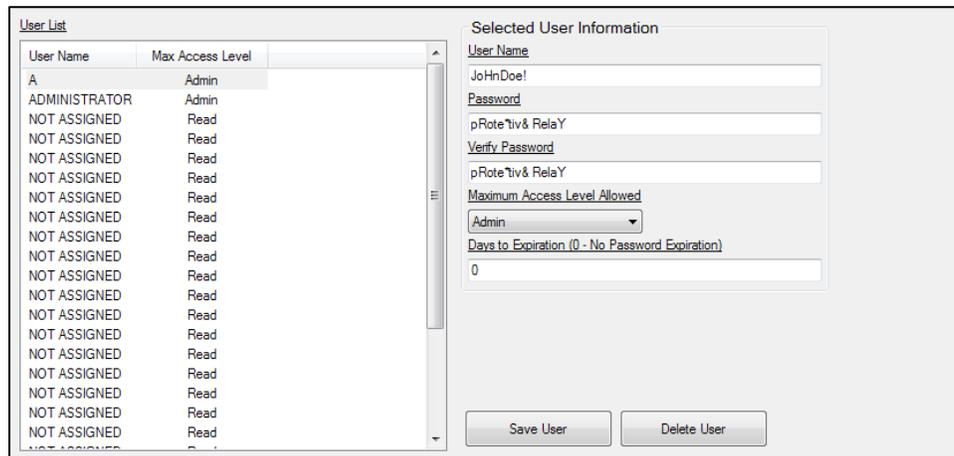

Figure 9-2. Username Setup Screen
3. Only an administrator can modify usernames and passwords on the Username Setup screen (Figure 9-2). Complex usernames and passwords up to 16 characters in length are accepted. Acceptable characters include uppercase letters, lowercase letters, numbers, and certain special characters.